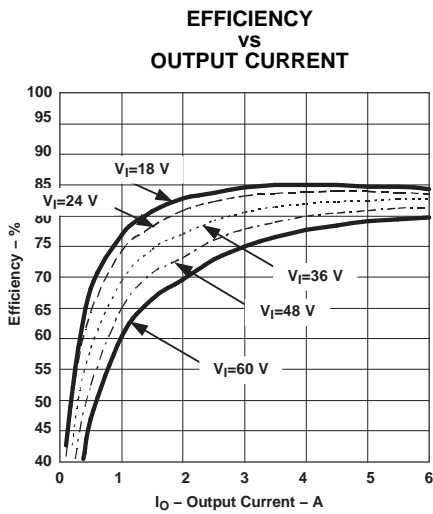
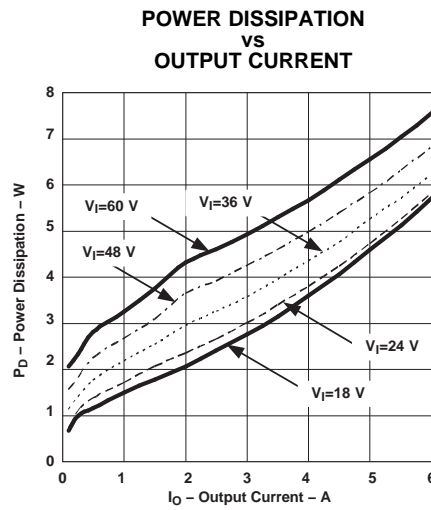
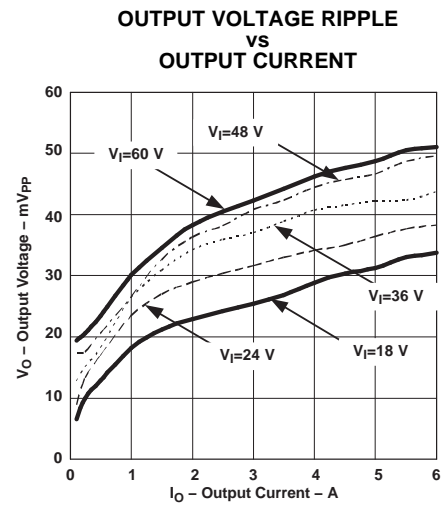

Figure 11.
Figure 12.
Figure 13.
- (5) All data listed in Figure 11, Figure 12 and Figure 13 have been developed from actual products tested at 25°C. This data is considered typical data for the dc-dc converter.